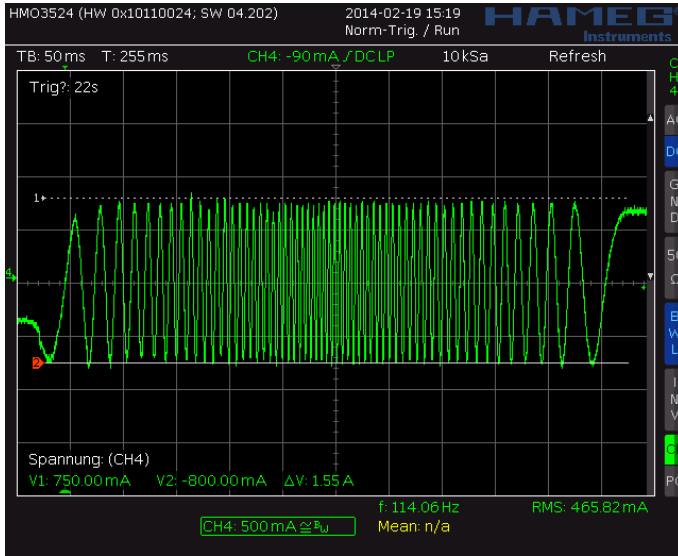
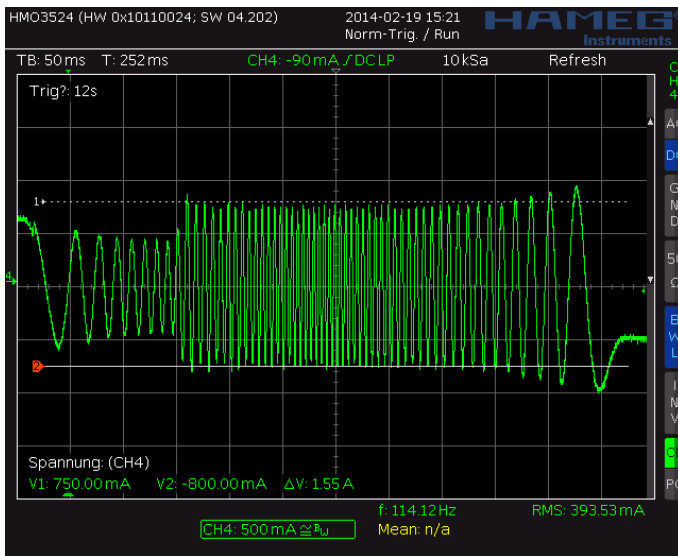
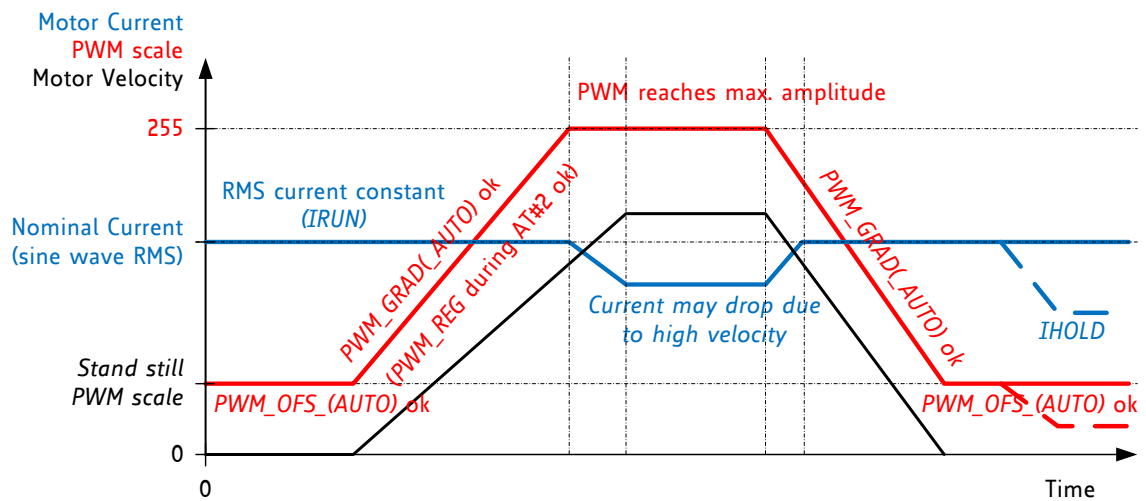

Figure 6.3 Scope shot: good setting for PWM\_REG
Figure 6.4 Scope shot: too small setting for PWM\_REG during AT#2
Figure 6.5 Successfully determined PWM\_GRAD(AUTO) and PWM\_OFS(AUTO)
In StealthChop voltage PWM mode, the autoscaling function ( $pwm\_autoscale = 1$ ,  $pwm\_auto\_grad = 1$ ) regulates the motor current to the desired current setting. Automatic scaling is used as part of the automatic tuning process (AT), and for subsequent tracking of changes within the motor parameters. The driver measures the motor current during the chopper on time and uses a proportional regulator to regulate  $PWM\_SCALE\_AUTO$  in order match the motor current to the target current.  $PWM\_REG$  is the proportionality coefficient for this regulator. Basically, the proportionality coefficient should be as small as possible in order to get a stable and soft regulation behavior, but it must be large enough to allow the driver to quickly react to changes caused by variation of the motor target current (e.g. change of VREF). During initial tuning step AT#2,  $PWM\_REG$  also compensates for the change of motor velocity. Therefore, a high acceleration during AT#2 will require a higher setting of  $PWM\_REG$ . With careful selection of homing velocity and acceleration, a minimum setting of the regulation gradient often is sufficient ( $PWM\_REG=1$ ).  $PWM\_REG$  setting should be optimized for the fastest required acceleration and deceleration ramp (compare Figure 6.3 and Figure 6.4). The quality of the setting  $PWM\_REG$  in phase AT#2 and the finished automatic tuning procedure (or non-automatic settings for  $PWM\_OFS$  and  $PWM\_GRAD$ ) can be examined when monitoring motor current during an acceleration phase Figure 6.5.